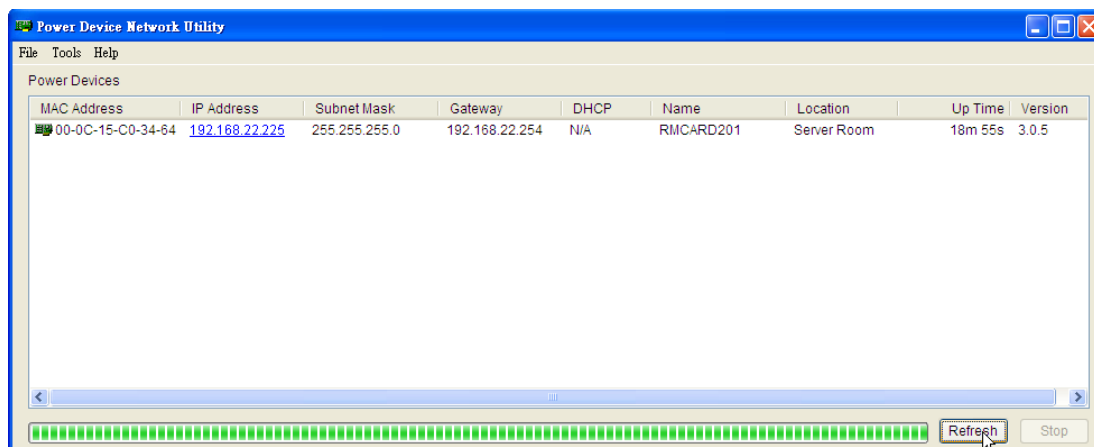

Figure 1. The main window of the “Power Device Network Utility” program.
3. The main dialog of the "Power Device Network Utility Tool" program is shown in Figure 1. The configuration tool will display all CyberPower Remote Management Cards of present on the same network. The "Refresh" button is used to search the entire local network for Remote Management Cards.